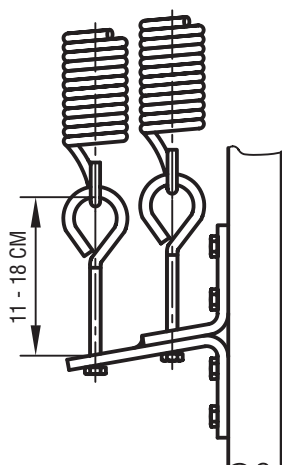

FIG. 3
8. FJEDERVINKLERNE MONTERES. SE FIG. 3. FJEDRE SÆTTES PÅ PLADS.